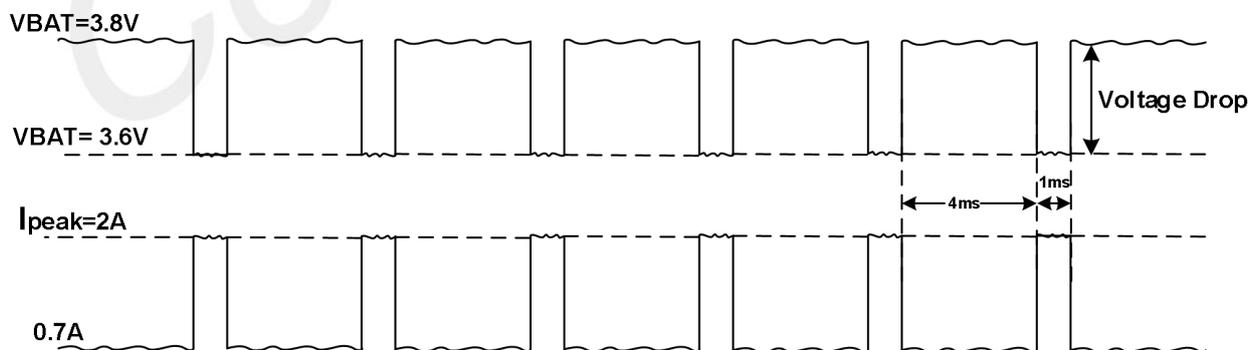

Figure 4: Power consumption at ENDC combination of B3 (20MHz) and N78 (100MHz)
2. The I_{peak} and voltage drop data in Table 6 and Figure 4 were tested use SIMCom EVB and connect instrument, module power supply voltage is 3.8V, ENDC combination is B3 (20MHz) and N78 (100MHz), subcarrier spacing is 30KHz.